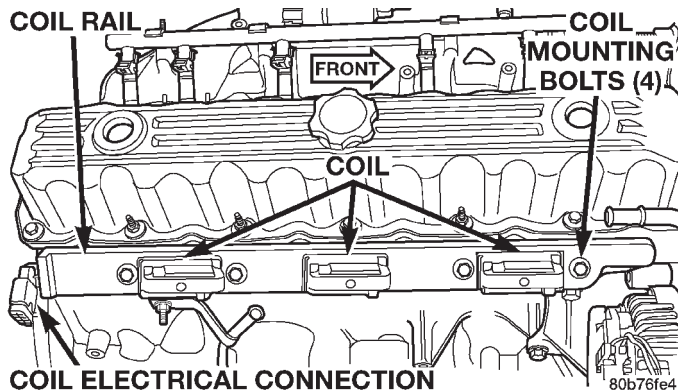

Fig. 3 Coil Location—4.0L Engine
(1) The coil is bolted directly to the cylinder head (Fig. 3). One electrical connector (located at rear of coil) is used for all three coils.